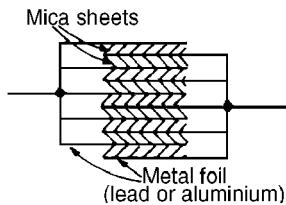

Figure 6.10
- 2 **Mica capacitors.** A typical older type construction is shown in Figure 6.10.